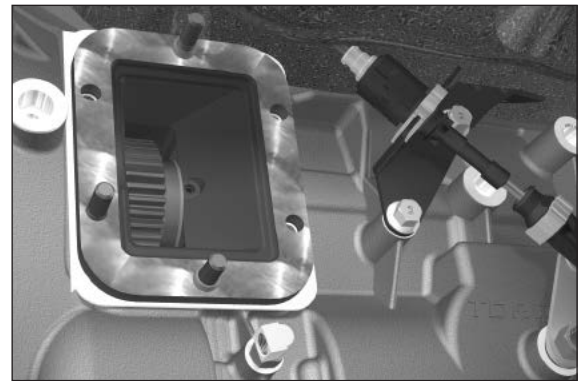

Figure 30
9. Install the geared adapter into the transmission aperture and over the studs (**Fig. 30**).